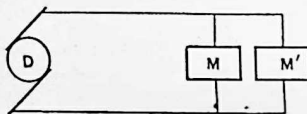

FIG. 42.
**Problem 17.** Through  $M$ , Fig. 42, 4 amperes flow. Through  $M'$ , 12 amperes. Total amperes in line equal what?